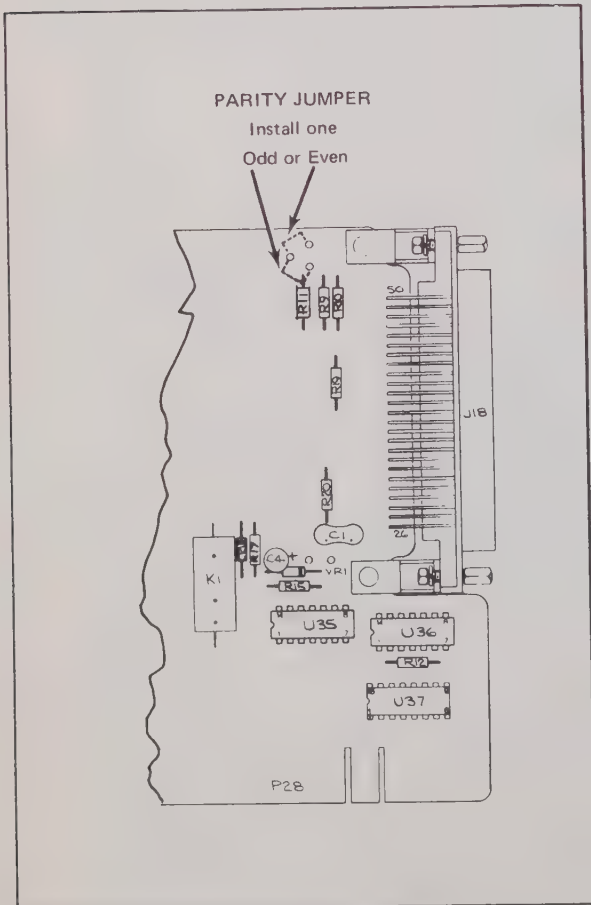

Figure 614-3. Parity Jumper Location, -14 Series Options
- e. Refer to Figure 614-3 and check to ensure that the parity jumper is properly positioned. If necessary, reposition the jumper to obtain the desired odd or even parity.